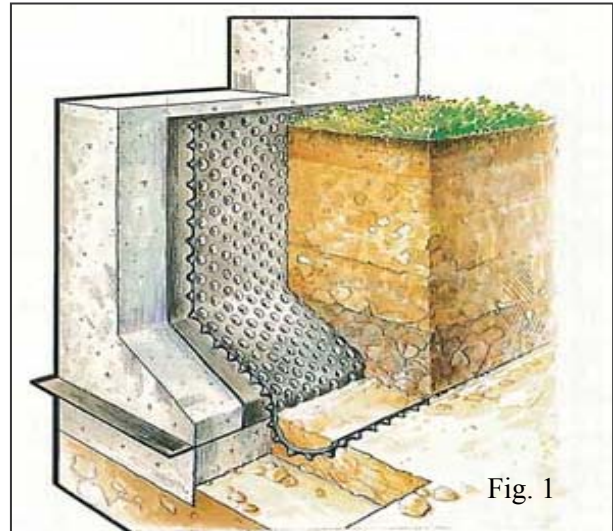

Fig. 1
**PLY-DRAIN** provides, according to the application requested, ventilation, thermal and acustical insulation, waterproofing and drainage. (fig. 1).